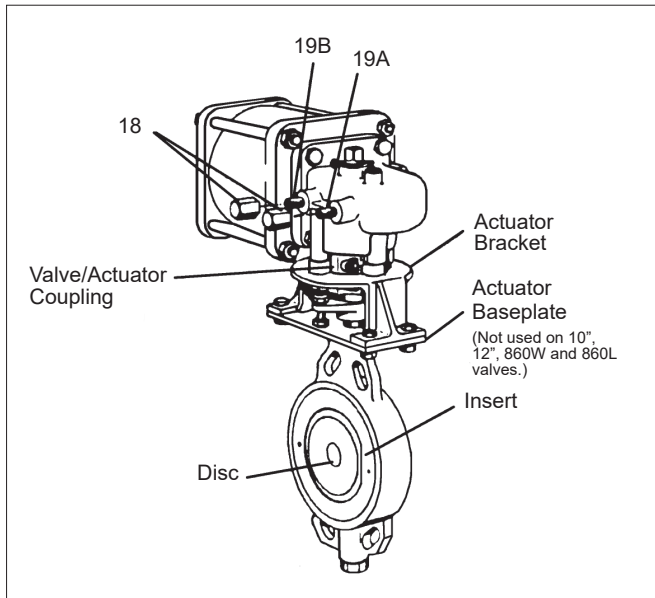

Figure 15.
- If the handle ratchet plate or the actuator base plate has been removed from the valve, reinstall it in the orientation shown in **(Figure 15 or Figure 18)**. Install lockwashers and screws in the two bonnet holes not used by the studs and install the lower lockwashers (16) and nuts (15) on the studs. Do not tighten the screws and nuts until the stops are set (see **SETTING ADJUSTMENTS** Section).
- Install blowout spacer (75) (3", 4" and 6" [DN 80, 100 and 150] 860 **ONLY**). Place the compression plate (10) over the shaft (4) and studs (14). Orient the plate so that the indicator pointer will be over the indicator plate. Install the lockwashers (16) and nuts (15), but do not tighten. Install the indicator pointer in the shaft.
- Install the lower bearing spacer (43), when applicable. Place the plug seal (42) in the recess at the bottom of the valve and install the plug (11). Torque the plug until it is flush with the body. A small (1/16" [1.6 mm]) tack weld on the corner of the plug is recommended. **CAUTION:** A larger tack weld is apt to have enough heat to damage the seal.
If it is necessary to orient the actuator in a different quadrant (**Figure 15 and 16**):
7.3 Setting Handle Stop (Figure 15)